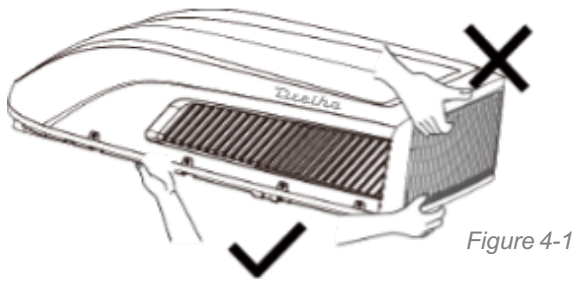

Figure 4-1
- When taking out the outdoor unit after unpacking, do not lift the air outlet grille at the back of outer case (see Figure 4-1).